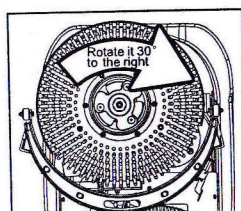
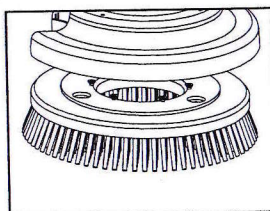

fig. 15
fig. 16
① Hold on the brush and rotate it 30° to the right to remove the brush(fig. 15&fig. 16), and then clean them.